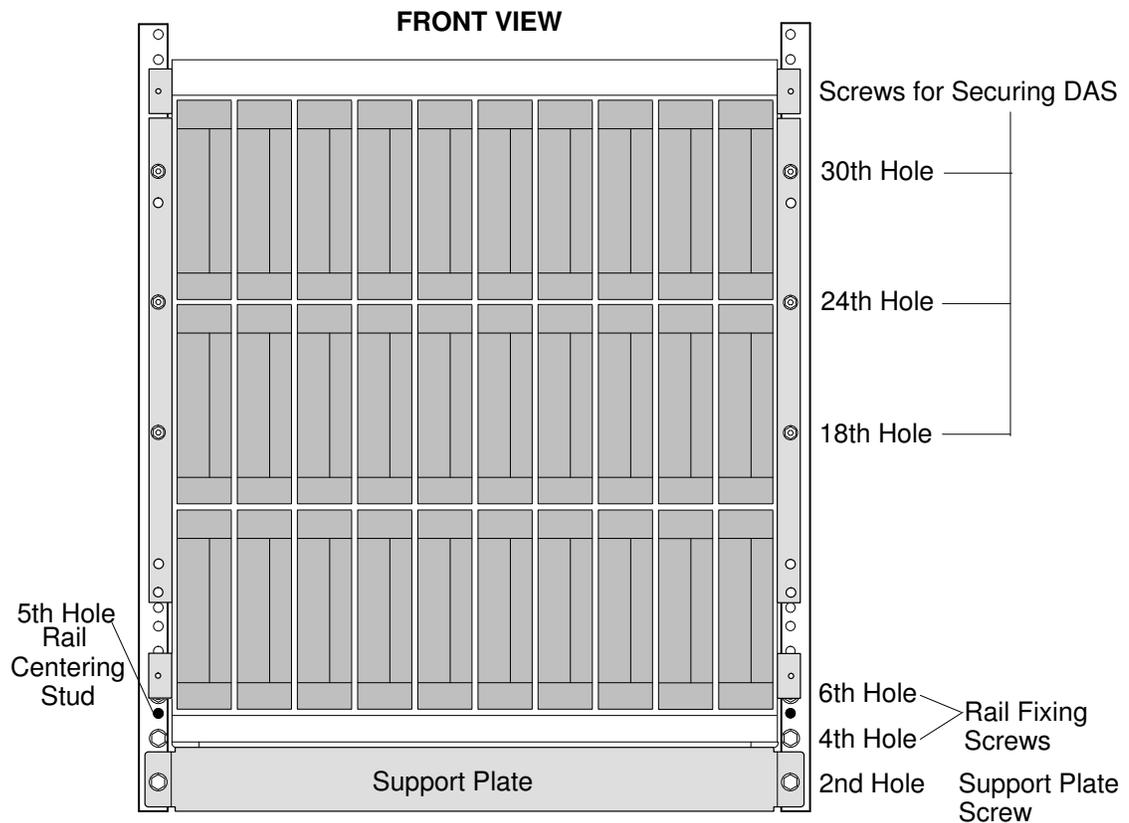

Figure 79. Front view of the DAS 3x00
1. At the **front** of the rack, insert three (3) M5 threaded nut clips in holes 18, 24 and 30 on each side as shown in figure 79.